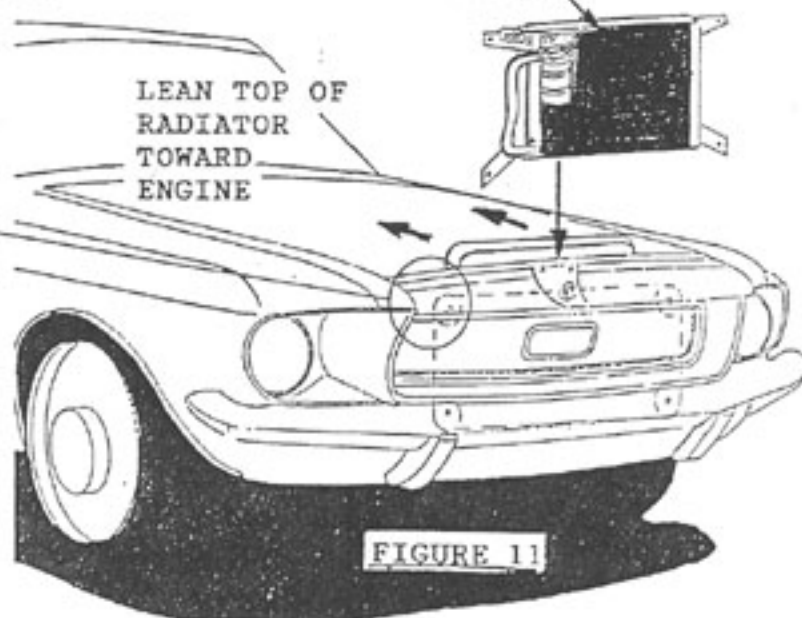

FIGURE 11
5. Lean top of radiator toward engine and slowly lower condenser assembly down between radiator and bulkhead as Figure 11 shows.
6. Install condenser bracket with OEM radiator bolts as Figure 11 shows.